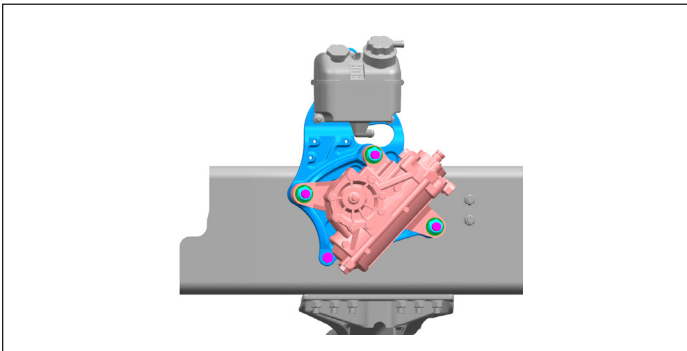

Figure 8 - Set-Back Axle Type
15. On vehicles with set-back axle types, the steering gear is assembled on the frame rail. See *Figure 8*. The steering gear should be removed with the pitman arm attached to it.
2. The pitman arm on set-back axle vehicles (See Figure 8) should be assembled before installing the steering gear on the frame rail.